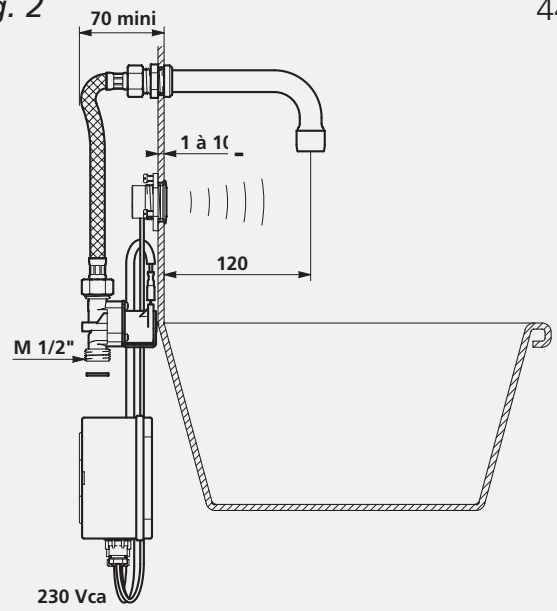

fig. 3
- **Type 441... throught the wall mounted** : (fig.3)